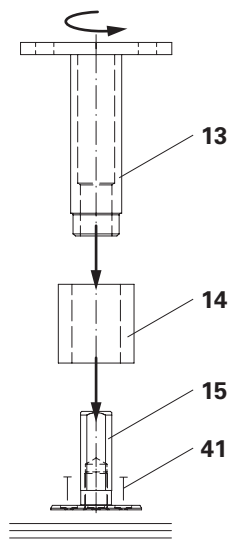
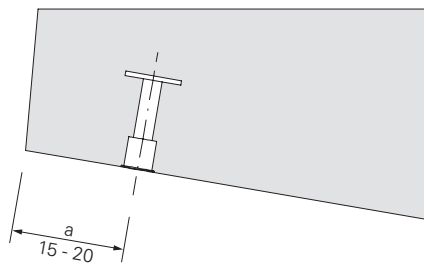

Fig. A5.01
Fig. A5.01a
1. Fix Anchor Position. M24x65 mm ga (**15**) to the formwork panel by means of four wire nails 3x80 mm (**41**). Take into consideration edge spacing "a" (Fig. A5.01 + Fig. A5.01a)
3. Screw Anchor Sleeve M24 (**13**) onto the Anchor Position. M24x65 mm (**15**) as far as it will go. (Fig. A5.01)